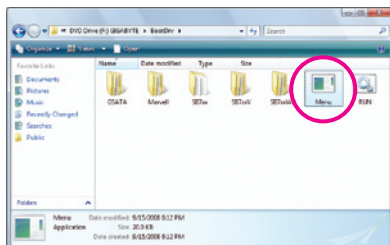
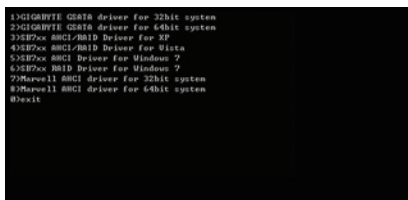

Figure 2
Figure 3
- 2: From your optical drive folder, double click the **Menu.exe** file in the **BootDrv** folder (Figure 2). A Command Prompt window will open similar to that in Figure 3.
- 3: Insert the blank formatted disk. Depending on the operating system to be installed, select the controller driver by pressing the corresponding letter from the menu and press <Enter>. For example, from the menu in Figure 3, For the AMD SB710, select **3) SB7XX AHCI/RAID Driver for XP** for Windows XP operating system.